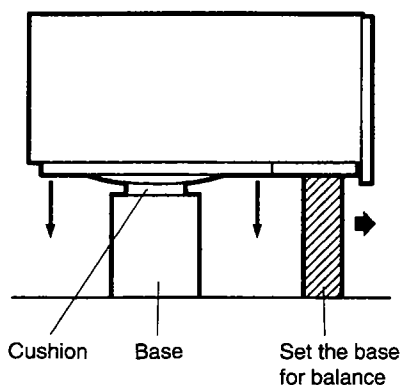
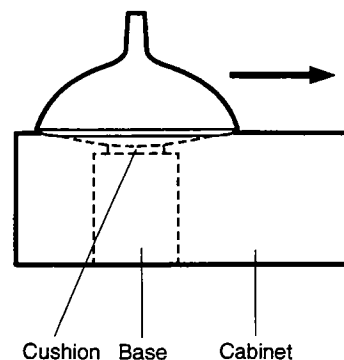

Fig. 7-2
Fig. 7-3
8. Remove the CRT from the cabinet carefully. (Fig. 7-2, Fig. 7-3)